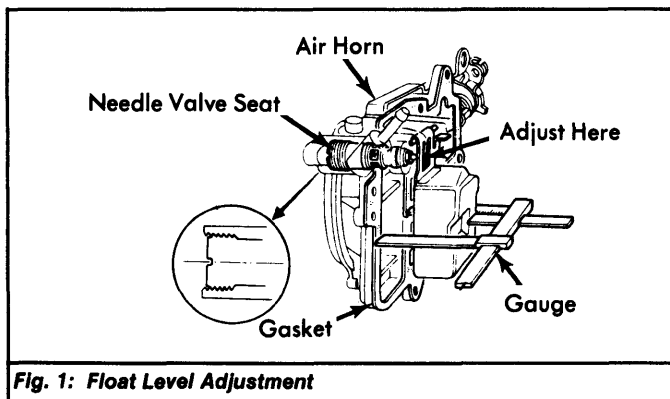

Fig. 1: Float Level Adjustment
- 2) Measure distance from air horn gasket to center to float. See Fig. 1. Measurement should be 1.39-1.47" (35.4-37.4 mm).